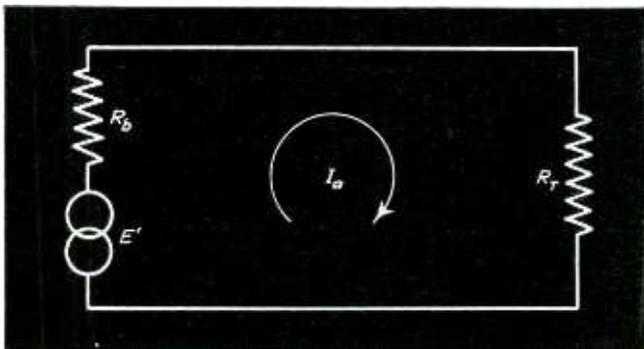

Fig. 4—Triode amplifier output circuit viewed as a generator with a resistive load
Equation (3) serves as a guide for the power amplifier output channel width. To apply the equation it is necessary to find the value of R_b , the apparent internal resistance of the amplifier tube plate circuit. This may be done as follows. In Fig. 4